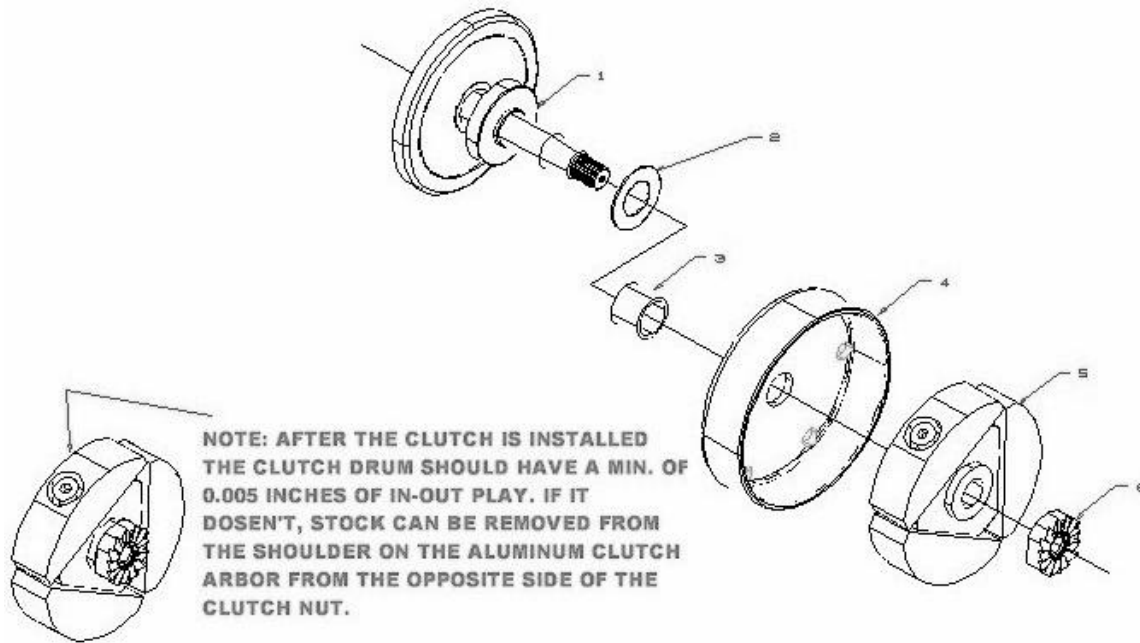

Figure 18, Clutch Assembly Drawing
7. Apply high strength (red) thread locking agent to the threads and install the nut and torque to 40 ft-lb (54Nm) with the special socket (see figure 18).